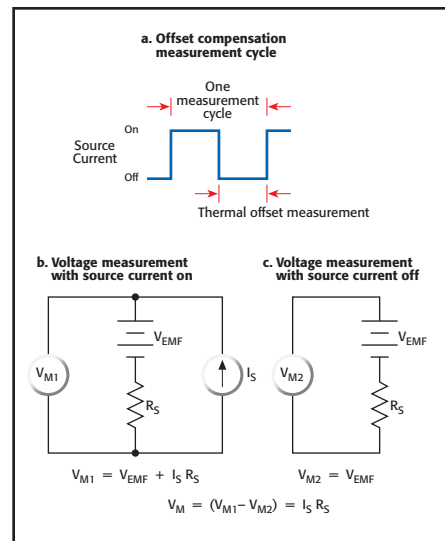

Figure 5a: Subtracting thermoelectric EMFs with Offset Compensation
- **Offset Compensation Technique (Figure 5a)** applies a source current to the resistance being measured only for part of the measurement cycle. When the source current is on, the total voltage measured by the instrument is the sum of the voltage due to the test current and any thermoelectric EMFs present in the circuit. During the second half of the measurement cycle, the source current is turned off and the only voltage measured is that due to the thermoelectric EMF. This unwanted offset voltage can now be subtracted from the voltage measurement made during the first half of the delta mode cycle.